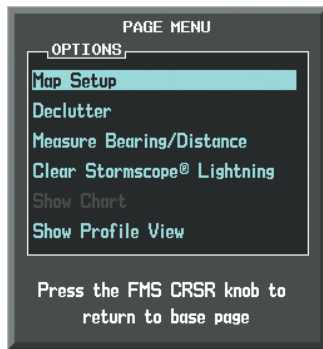

Figure 6-167 Navigation Map Page Menu
- 3) With 'Map Setup' highlighted, press the **ENT** Key (Figure 6-167).